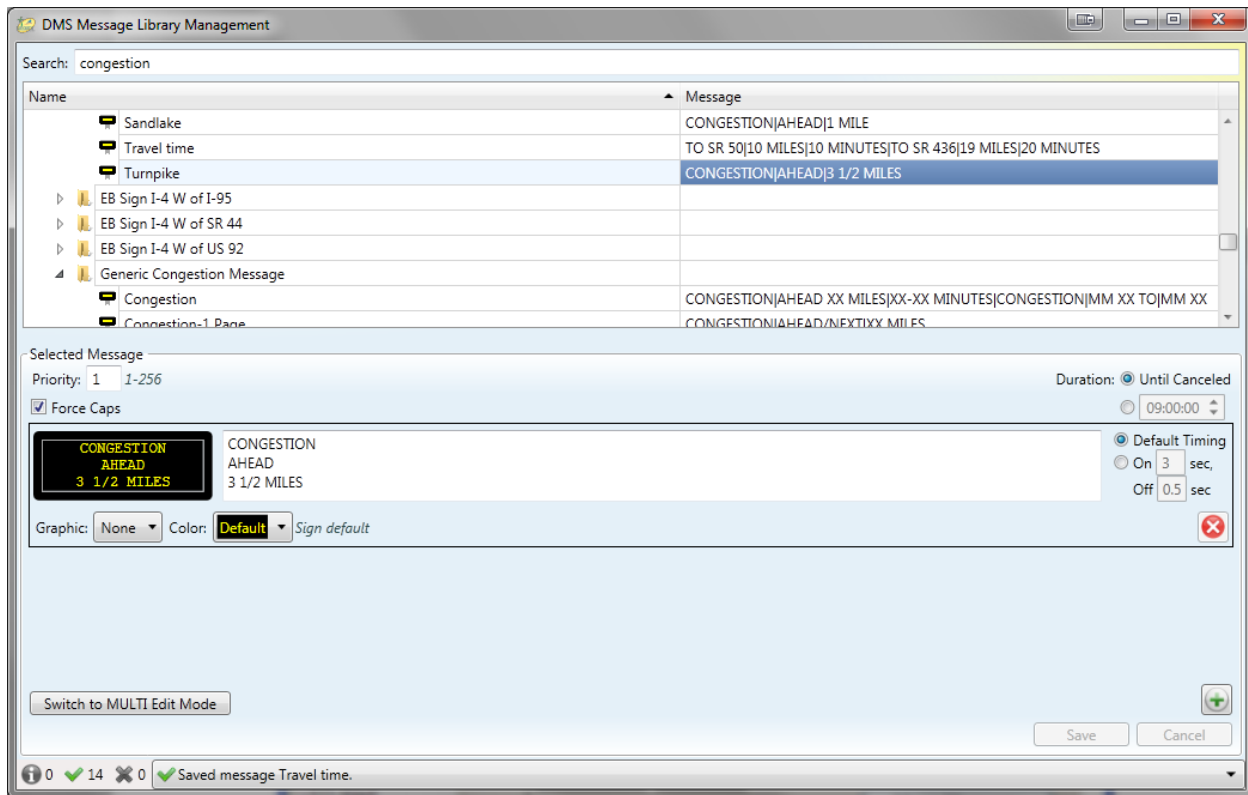

Figure 3-90 – DMS Message Library – Edit Message
- **Edit Message:** Clicking on a message in the library brings up the Figure 3-90
When the operator selects the **Edit Message** option, the dialog shown in Figure 3-90 is displayed.